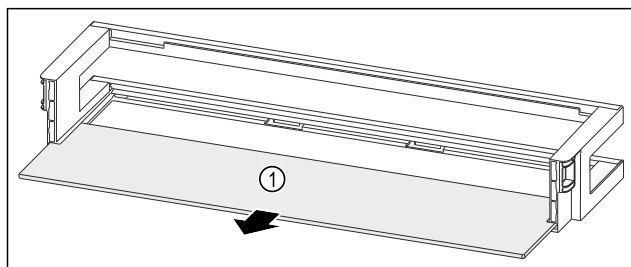

Fig. 121 Door racks with shelf
- Remove the shelf Fig. 121 (1).